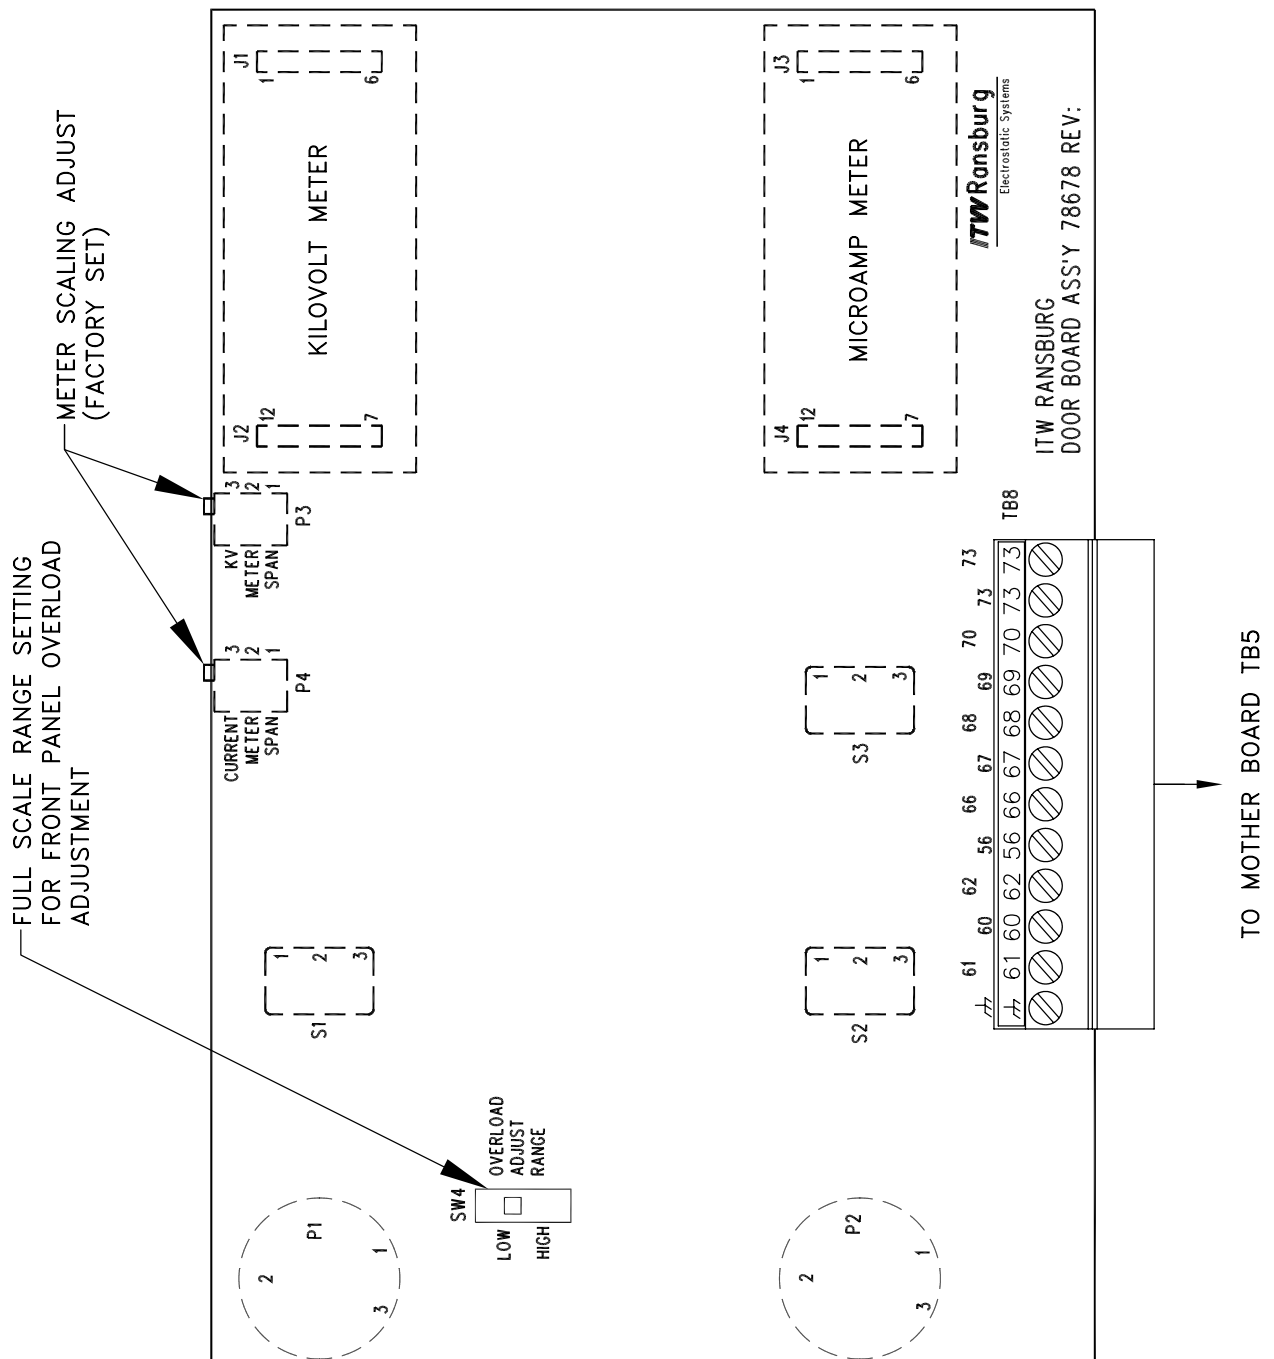

Figure 12: Front Panel Board
(Refer to Figure 12)
Overload Range Select Switch (Refer to Figure 12)
- There are two full-scale overload current ranges available, 0-500 microamps and 0-1,500 microamps. The ranges are selected by a slide switch located on the inside of the control unit door on the printed circuit board (see Figure 12). The switch setting indicated by LOW corresponds to the 0-500 micro-amp range and HIGH corresponds to the 0-1,500 microamp range.